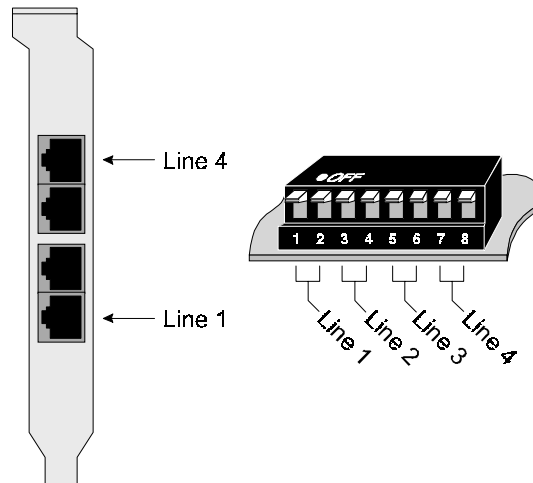

Figure 3. DialFire BRI connectors and line-terminating DIP switch
The terminating switches must be changed in pairs (one for transmit and one for receive), as shown in figure 3. The figure shows the switches set for no termination (OFF position). To terminate the lines, place the switches in the ON position (down, or toward the board).
10. Connect the telephone line(s) to the adapter (see figure 3 on page 31 for connector locations).